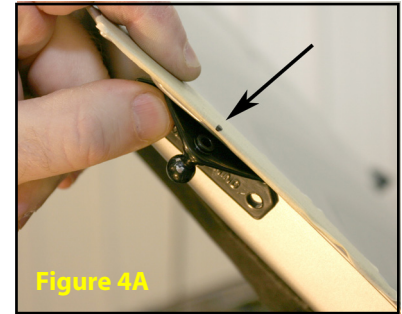

Figure 4A
A. Align the center of the bracket with the mark you just made on the hood. You will need to view the hood directly from the side as shown in **Figure 4A**. The bracket should sit on the flat area just inside the edge of the hood skin with the ball stud facing down and toward the vehicle. The back of the bracket should be up against the hood's skin.